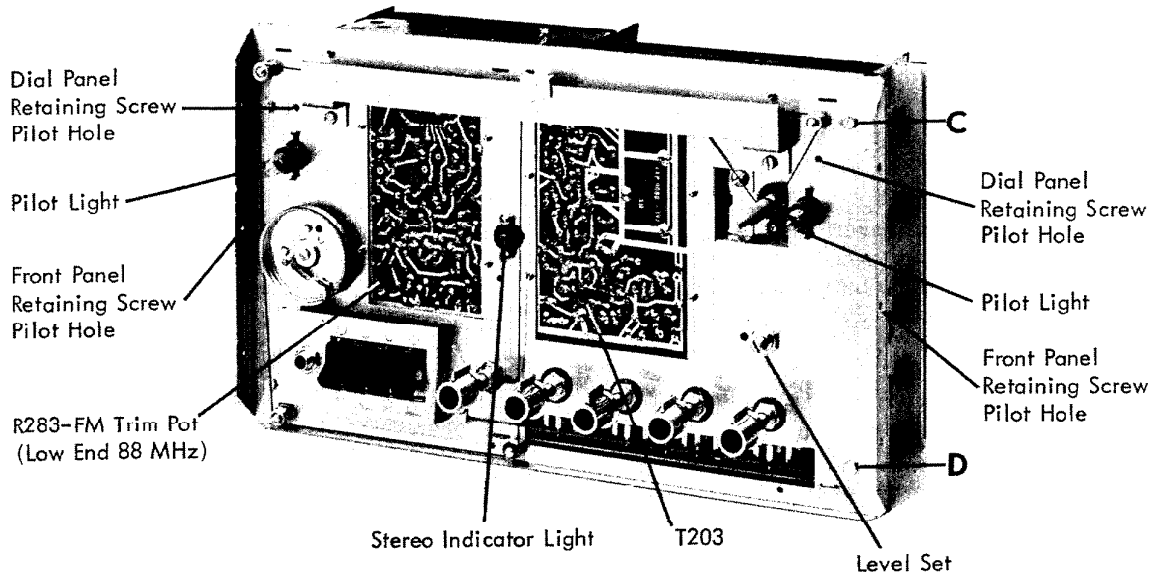

Fig. 1.33
2. Replacing Pilot Lights: (Fig. 1.33)
3. Removing Dial Panel: (Fig. 1.33)
4. REPLACING DIAL CORD: (Fig. 1.33 and 1.34)
5. Stereo Indicator Light: (Fig. 1.33)
(6.2) Fig. 1.33: Remove ¼" hex-head screws C and D, right side of front chassis.